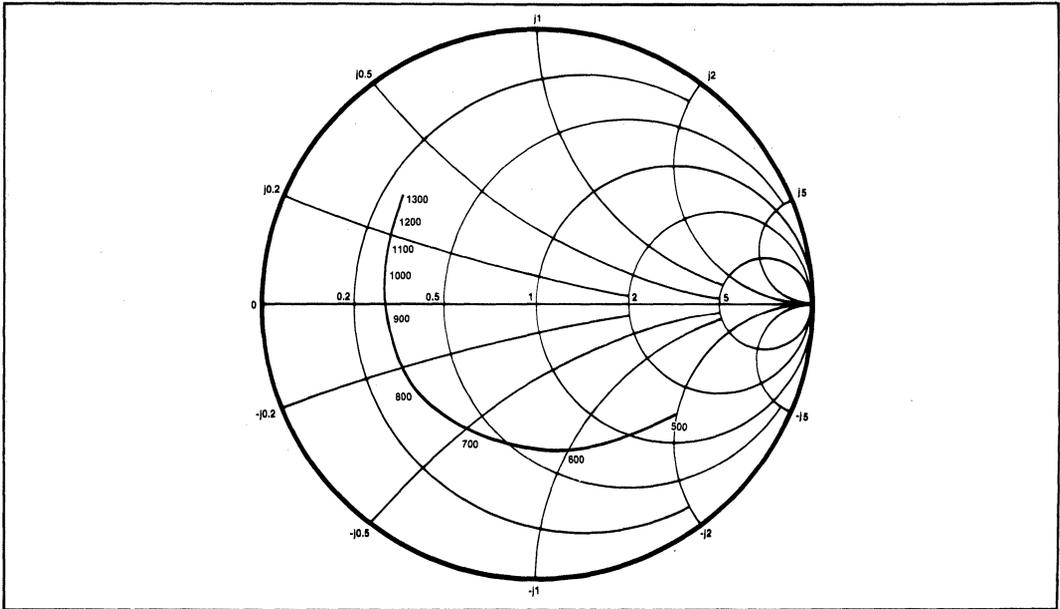

Fig.4 Typical input impedance. Test conditions: supply voltage -5.2V, ambient temperature 25°C, frequencies in MHz, impedances normalised to 50 ohms.
4. The input impedance of the SP8605/6 is a function of frequency. See Fig. 4.